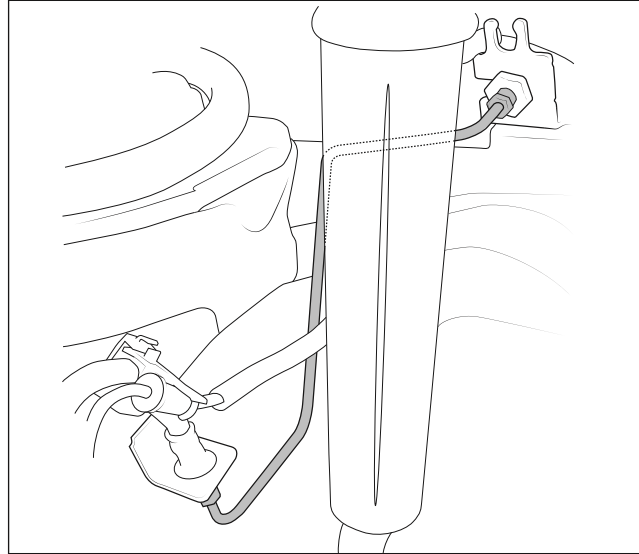

Figure 34
14. Install AEV steel brake lines between the factory flexible lines (fig. 34). NOTE: On POWER WAGON, slight bending of the brake lines may be necessary for proper drive shaft clearance.